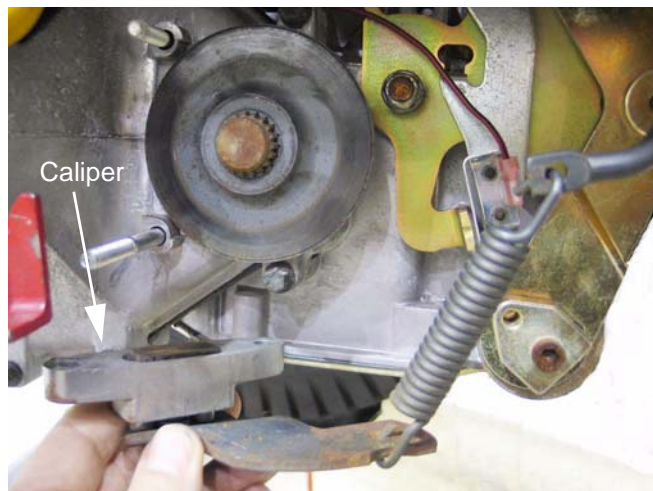

Figure 32.18
32.18. Once the caliper is removed from the transaxle, the arm can be unhooked from the spring that connects it to the linkage. See Figure 32.18.